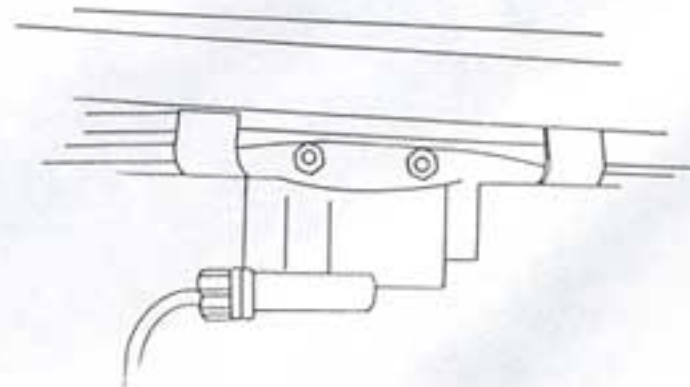

Fig. 2
- Remove the outercasing retainer together with the ignition coil (8mm wrench, fig. 2).